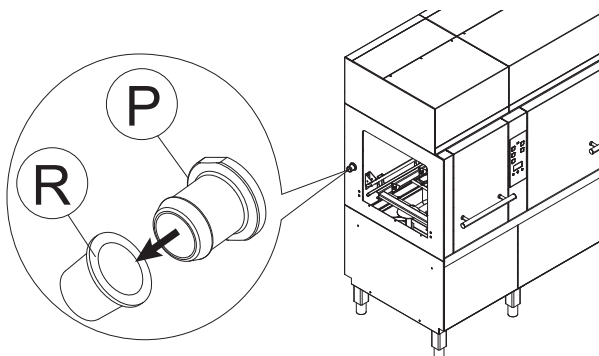

Figure 11 Prearrangement for solid detergent
The left and right side panels of the dishwasher have a hose union "P" (Figure 11) for connecting the solid/powder detergent dispensers.
- remove protection cap "R" (Figure 11) from hose union "P";